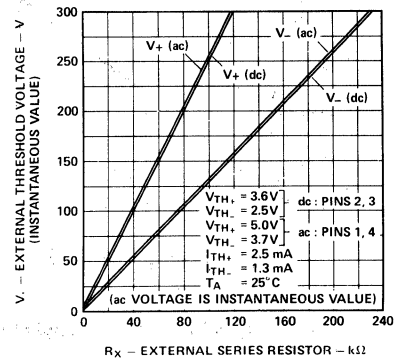
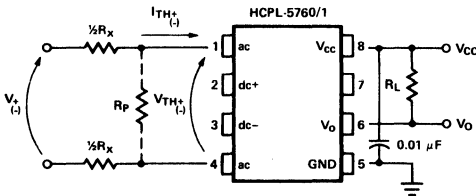

Figure 10. Typical External Threshold Characteristic, V_{\pm} vs. R_x
Figure 11. External Threshold Voltage Level Selection
desired external threshold voltage, V_{\pm} a corresponding typical value of R_x can be obtained from Figure 10. Specific calculation of R_x can be obtained from Equation (1) of Figure 11. Specification of both V_+ and V_- voltage threshold levels simultaneously can be obtained by the use of R_x and R_p as shown in Figure 11 and determined by Equations (2) and (3).